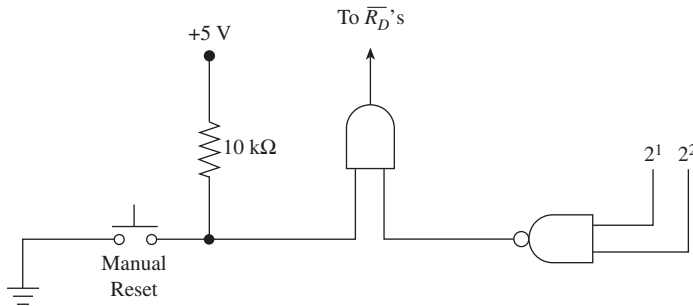

Figure P25
- C D** 25. The circuit in Figure P25 is being considered as a replacement for the Reset circuitry of Figure 21. Do you think that it will work? Why?